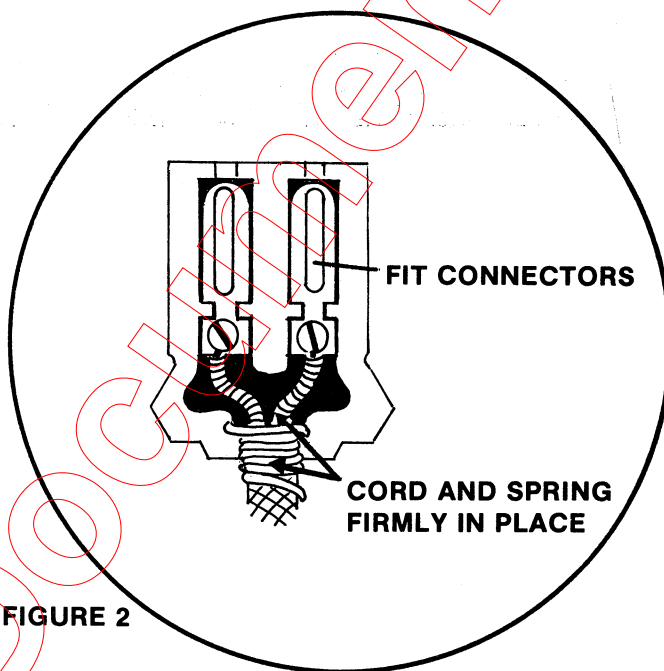

FIGURE 2
12. Slide the spring up to fit into the base of the plug cover. (Fig. 2)